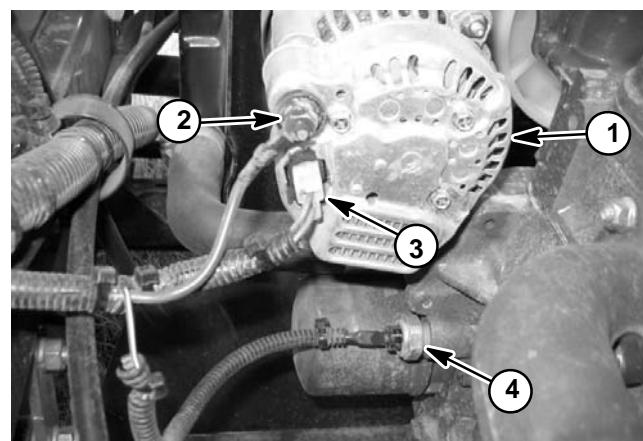

Figure 13
- F. Remove cable from alternator stud. Disconnect wire harness connector from alternator (Fig. 13).
- G. Disconnect brown/white wire from oil pressure switch (Fig. 13).